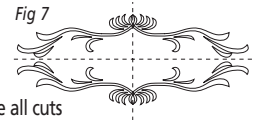

Fig 7
7.2 Four Way Symmetrical Design (Fig 7)